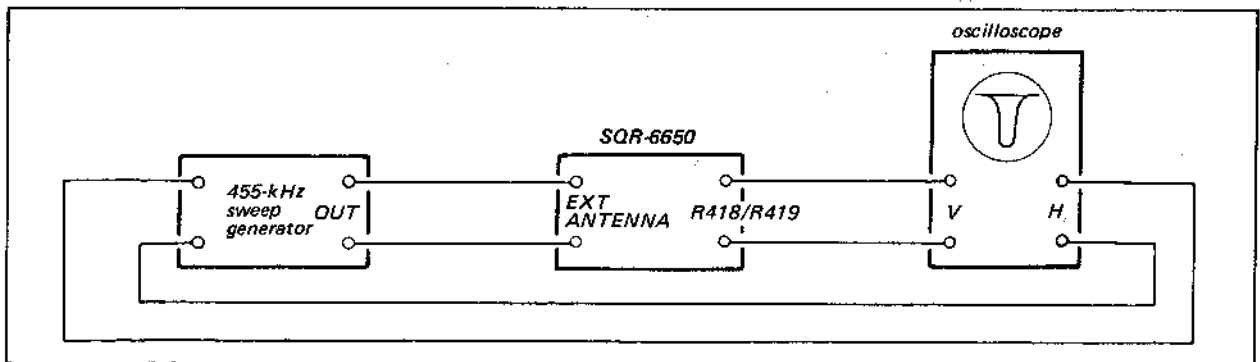

Fig. 3-15. A-m i-f alignment by sweep generator test setup
4. With the equipment connected as shown in Fig. 3-15, adjust the oscilloscope controls and generator output to provide a visible indication.